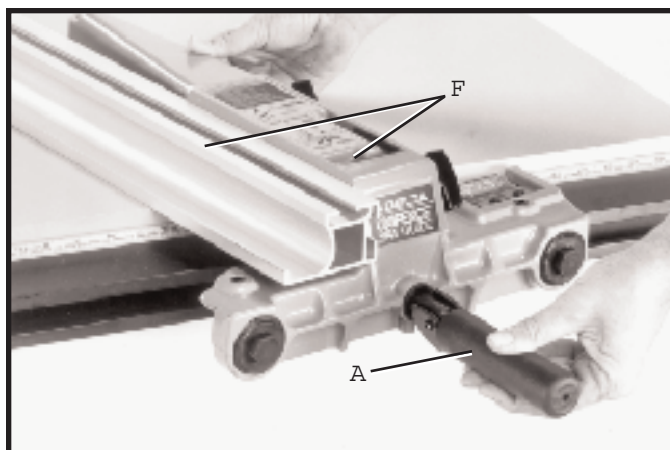

Fig. 54
6. To remove the fence and fence body assembly (F) Fig. 54, from the guide rail, lift up on fence clamping lever (A) and turn lever (A) to the left indent position. The fence assembly (F) can then be pulled straight off the guide rail and removed, as shown in Fig. 54.